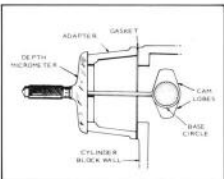

FIGURE 3-49. MEASURING DEPTH FOR SHIM THICKNESS.
- Determine shim thickness required between pump and adapter because the new gasket may not be the same thickness as the original one. See Figure 3-49.
- Rotate crankshaft to position camshaft so that the pump rollers contact the camshaft base circle (low point of the pump cam lobes). One lobe should be up, the other lobe down. See Figure 3-49.